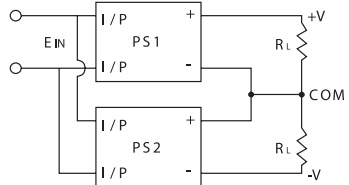

Figure 10: Positive and negative terminals connect in series
- a) Positive and negative terminals are connected as figure 10.